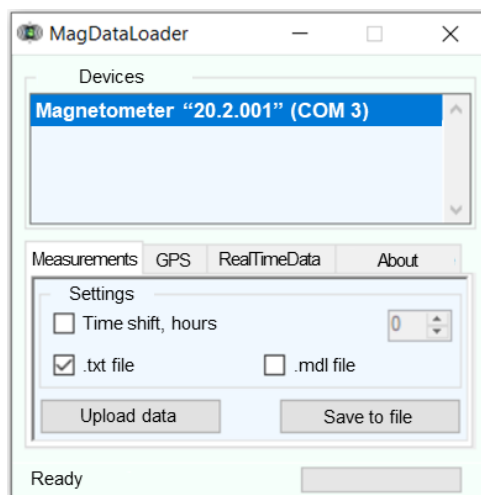

Figure 44 – Main window of MDL program
3. Copy the MDL.exe program to PC and run. After the main program window appears (Figure 44), the list will display the connected device or several devices if they are connected simultaneously.